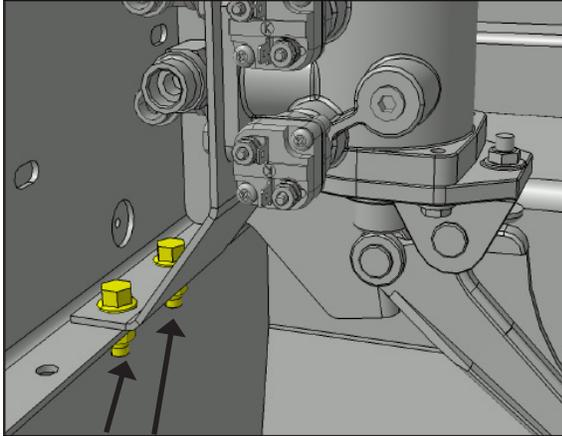

Figure 6: Remove the two sets of 3/8" bolts and nuts from the bottom of the treadle valve.
6. Remove and retain the two (2) sets of 3/8" bolts and nuts from the bottom of the treadle valve (Figure 6).